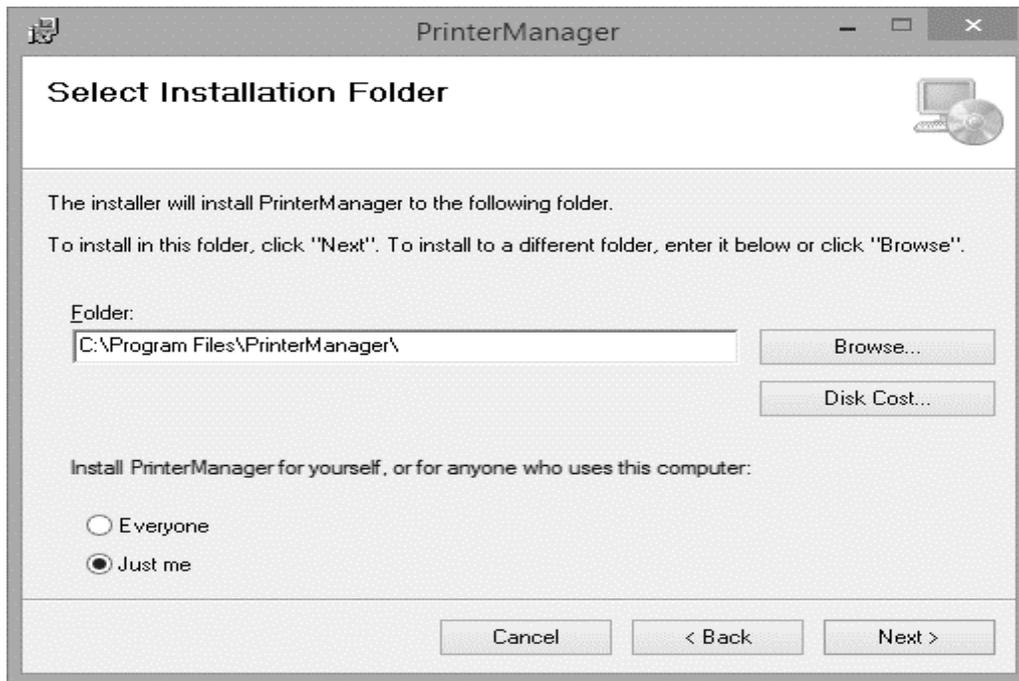

Fig 39: The Select Installation Folder Window
Step 3: Click on the **Browse** button to navigate to the location where you want to store all the setup files and then click on the **Next** button to move to the next step of installation (Refer to Fig 39). The **Confirm Installation** window appears.